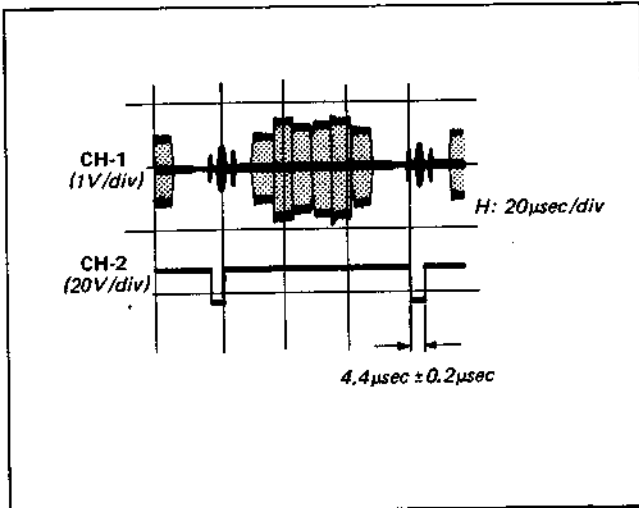

Fig. 4-4-7. Pulse width adjustment of burst gate signal
- (3) Adjust RV3 so that the pulse width of the burst gate signal is $4.4 \mu\text{sec} \pm 0.2 \mu\text{sec}$. (See Fig. 4-4-7.)